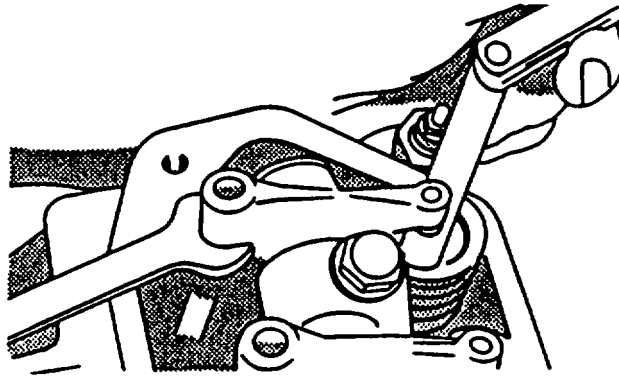

FIGURE 3-116. Checking Valve Clearance
- g. Adjust valve clearance on No. 1, 3, and 5 exhaust valves and No. 1, 2, and 4 intake valves, refer to FIGURE 3-116.
- c. Set rocker arm-to-valve tip clearance to 0.00 inch (0.00 mm) by turning adjustment nut clockwise until pushrod cannot be turned by hand for No. 1, 3, and 5 exhaust and No. 1, 2, and 4 intake valves, refer to FIGURE 3-116.